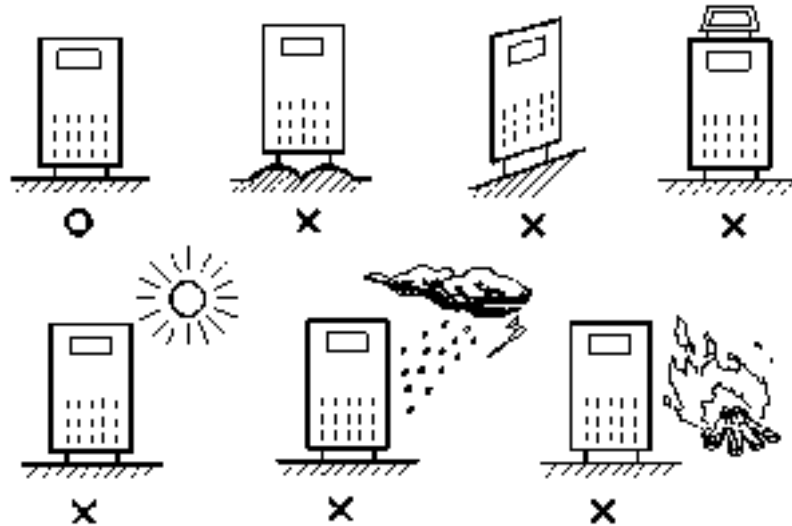

Fig.4-1 The inverter location
1. Fastening of inverter: Mount the plate on inverter as fig.4-1 shown first, then fasten the inverter to frame through the plate.